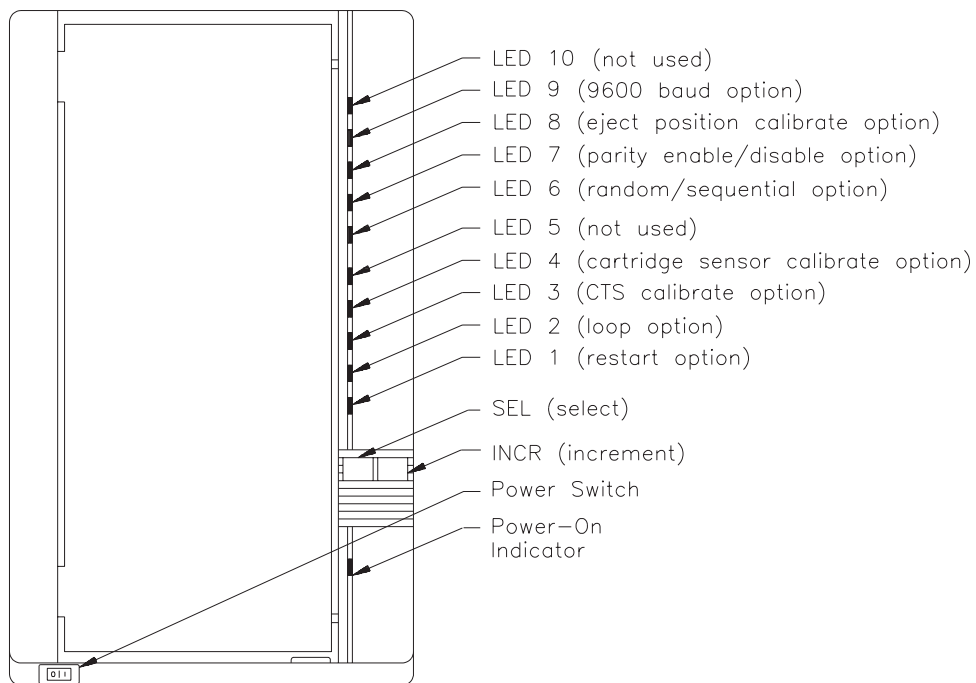

Figure 3-17 LEDs on the front of the EXB-10i (for EXB-10i code 2.6 and above)
1. Make sure that the power switch on the front of the EXB-10i is off. Figure 3-17 shows the location of the power switch.
1. Locate the INCR and SEL buttons, as shown in Figure 3-17. Press and hold both the INCR and SEL buttons simultaneously while moving the power switch to the “on” position. After all LEDs turn on and then turn off (in approximately two seconds), wait for another second and then release the buttons.
2. Check to see if LED 3 is on. Figure 3-17 shows the location of LED 3, which is used to set the CTS calibrate option. If it is on, skip to step 4. If it is not on, go to step 3.
To turn on the EXB-10i, push the power switch on the front of the EXB-10i to the “on” position. Figure 3-17 shows the location of the power switch.